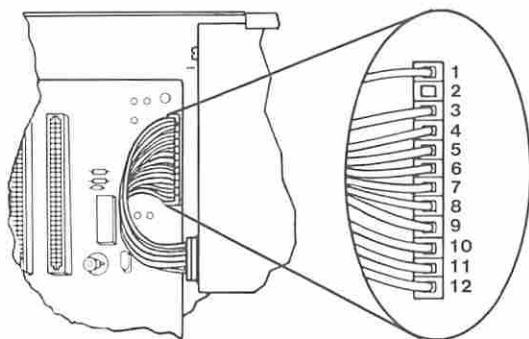

Figure 1. System Board Power Connector
- Check for a voltage of 2.4 to 5.2 Vdc between pins 1 and 5 (ground) at the system board power connector (Figure 1 on page 0020-3).